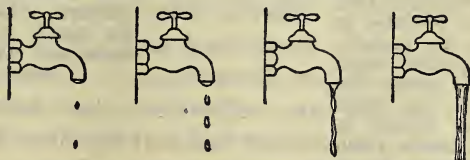

Fig. 9. The waste of water increases as the fiber washer of the faucet wears. Renew the washers when your faucet drips
23. Good water is expensive. Water is thought of as being free, but someone must pay the cost of reservoirs, aqueducts, water mains, and their maintenance. This cost is levied on us as a tax. If one wastes water (Fig. 9), the taxes will be raised. When